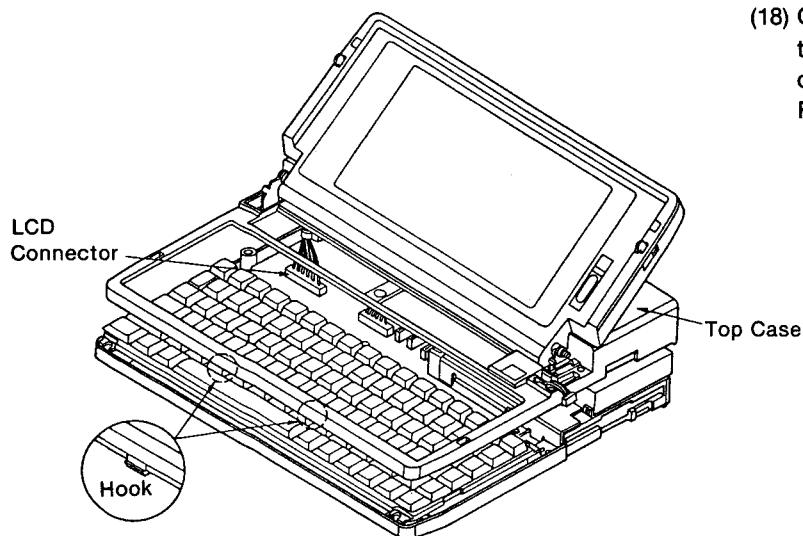

Figure 13
(18) Gradually lift up the rear end of the top case so that hooks can be easily unlatched and then disconnect the LCD connector as shown in Figure 13.